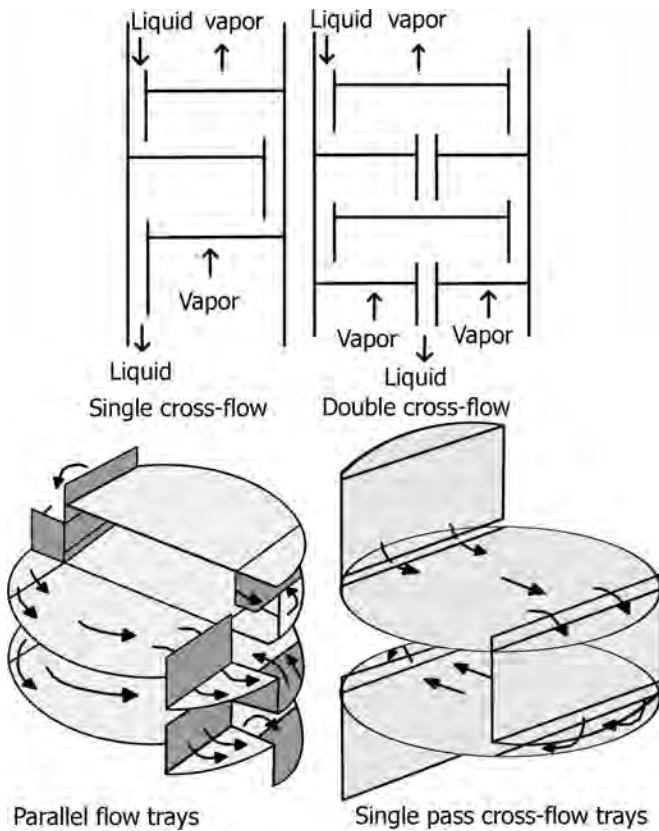

FIGURE 16.6 Types of flows on distillation trays.
- Figures 16.6 illustrate flow arrangements on trays.